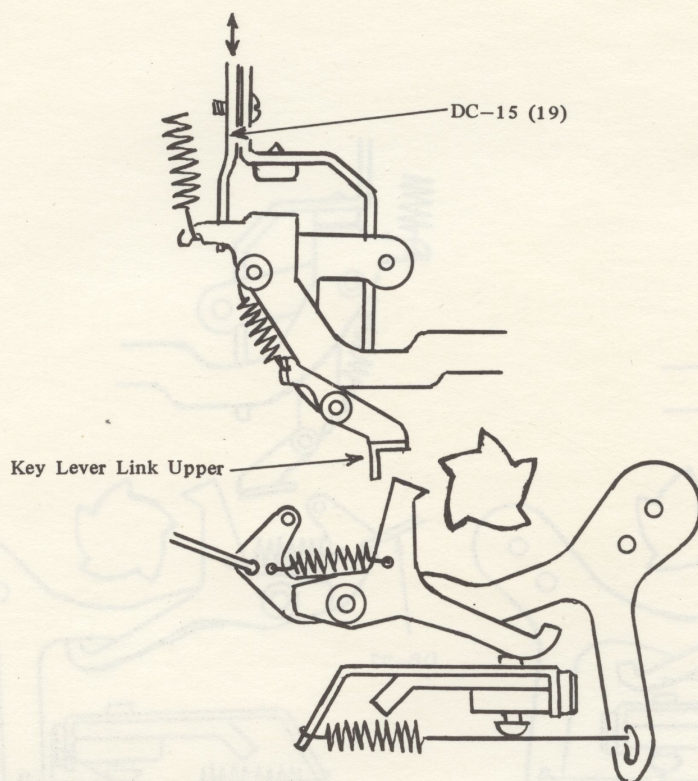

Fig. 10
- (3) As a specially arranged Key Lever Link (upper) is equipped in Key Lever for Repeat Key, continuously printing can be obtained by returning motion all the time of Dog Shelf to the position where DD-27 is engaged by means of Key Lever Link (upper) when Key is deeply and continuously depressed. If unevenly repeating speed is experienced by more or less depressing action for Key, adjust DC-15 or 19 (Repeat Key Lever Stopper) by shifting up and down to obtain the correct speed. (Fig. 10)